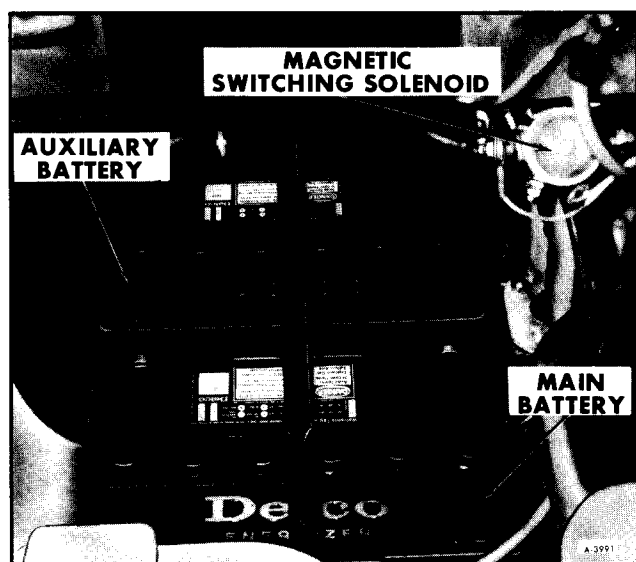
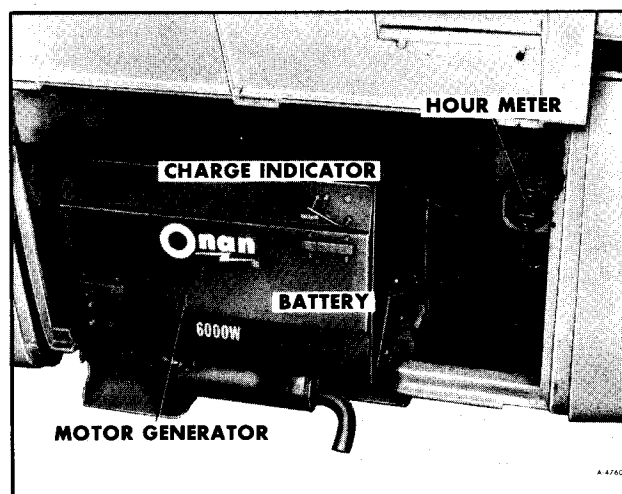

Figure 2—TransMode Main and Auxiliary Batteries
Figure 3—TransMode Motor Generator Cranking Battery (Optional)
- **TransMode**—The main (automotive) battery and the auxiliary battery are both located behind the right front access door. The main (automotive) battery sits in front of the auxiliary battery, Figure 2. Vehicles equipped with the optional motor generator include a cranking battery located in the motor generator or storage compartment, Figure 3.